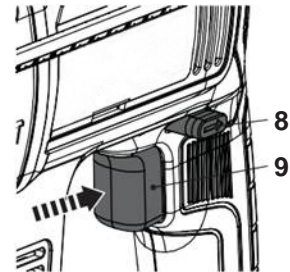

Fig. 8
1. Switch the product on by pressing the on/off switch (9) (Fig. 8).
2. Switch the product off by releasing the on/off switch (9).